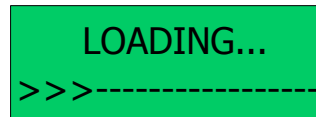

Fig. 4-1: Initialization Interface
1. When the system is turned on without connecting to the teaching pendant, the LCD will enter initialization interface automatically (Refer to Fig.4-1).